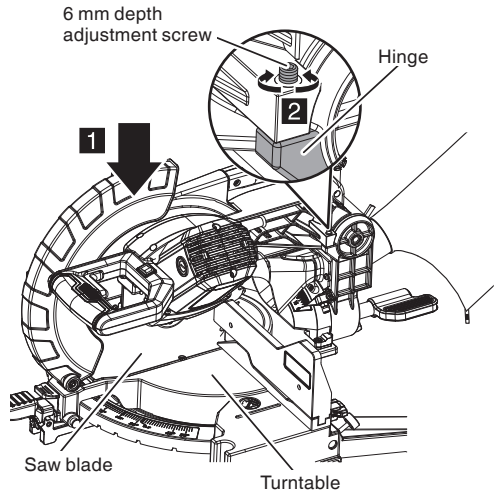

Fig. 8
To adjust the lower limit position of the saw blade, follow the procedure (1) indicated below. (Fig. 8)